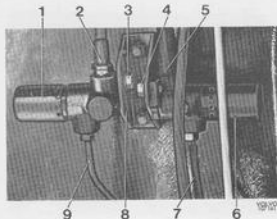
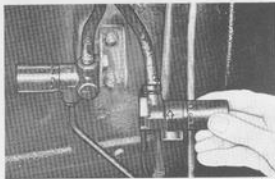

Fig. 5-55. The brake valves installed
Fig. 5-56. Removing brake valve
1. Unscrew and plug the connection (9, Fig. 5-55) of the brake pipe. Loosen the brake hose (5) a maximum 1/4 turn at the valve. Remove the attaching screw (4) and unscrew the valve from the brake hose; see Fig. 5-56.
2. Screw the new brake valve onto the brake hose, with new seal, compare Fig. 5-56. Place the valve in position and check that there is no tension in the hose. Fit the attaching screw and connect up the brake pipe. Tighten up the connection. Bleed the brake system.